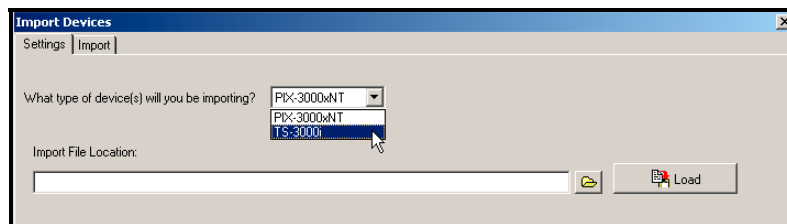

Figure 6-3. Select Device Type.
Step 2. From the Import Devices screen select TS-3000i from the dropdown menu for the type of device to import (see *Figure 6-3*).
Step 3. From the Device screen, click on the **Import Devices**  button on the bottom, and the Import Devices screen will open to enter settings (see *Figure 6-3*). Proceed from **Step 2** from the previous procedure to complete importing the TS-3000i clock.